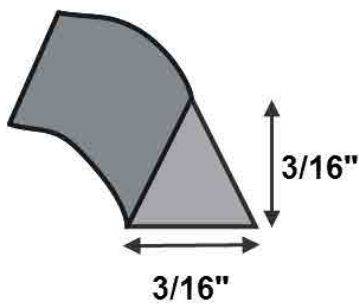

FIGURE 10
12. Cut the tip of the glue applicator to have a 3/16mm wide x 3/16mm high triangular bead of glue (Fig. 10).